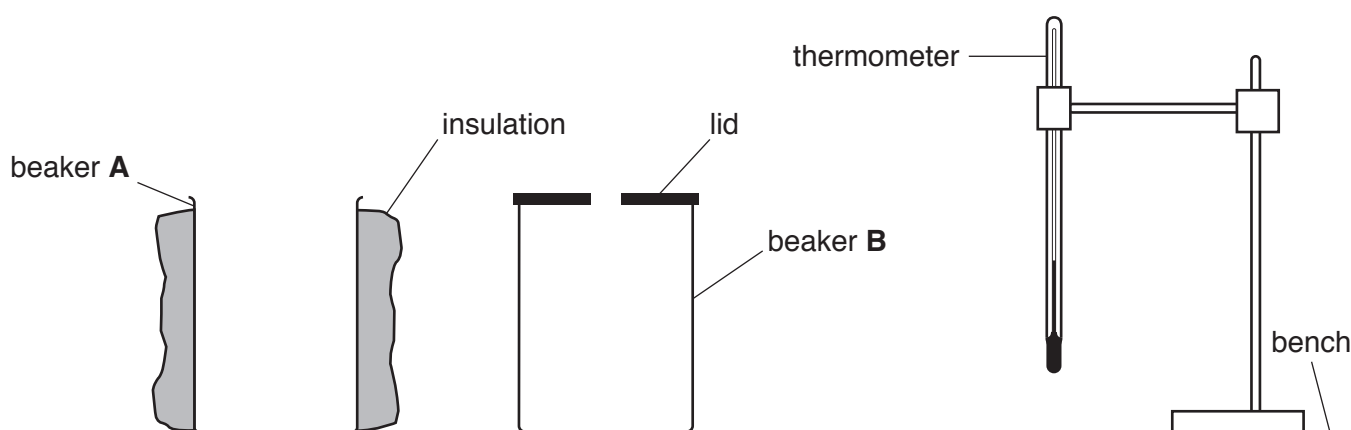

Fig. 2.1
- (iv) Insulation material to cover the sides of beaker **A** as shown in Fig. 2.1.
- (v) Lid for beaker **B** as shown in Fig. 2.1, with a hole for the thermometer. Rigid card or thin wood are suitable.
1. The thermometer, clamp, boss and stand are to be set up for candidates as shown in Fig. 2.1. The thermometer bulb must be well below the 100 cm^3 level of the beakers. Candidates must be able easily and safely to read temperatures up to 90°C and to move the thermometer in and out of the beakers.
2. The beakers are to be provided to candidates with the insulation and lid fitted as shown in Fig. 2.1.
Empty the water from the beakers and measuring cylinder. Check that the apparatus is intact and is arranged as in Fig. 2.1.